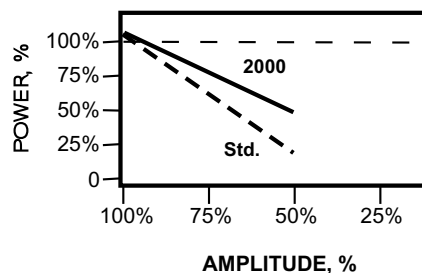

Figure 5. Maximum Power Output
- **Power vs. Amplitude Setting** - When changes in amplitude are made, the maximum power available also changes. With electronic amplitude, a more stable linear relationship is maintained between amplitude setting and power. (Figure 5.)